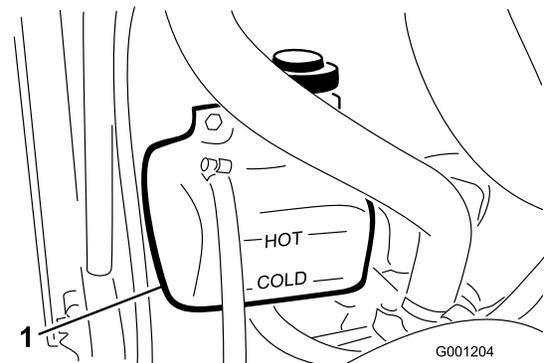

Figure 71
1. Check the level of the coolant in the expansion tank (Figure 71).